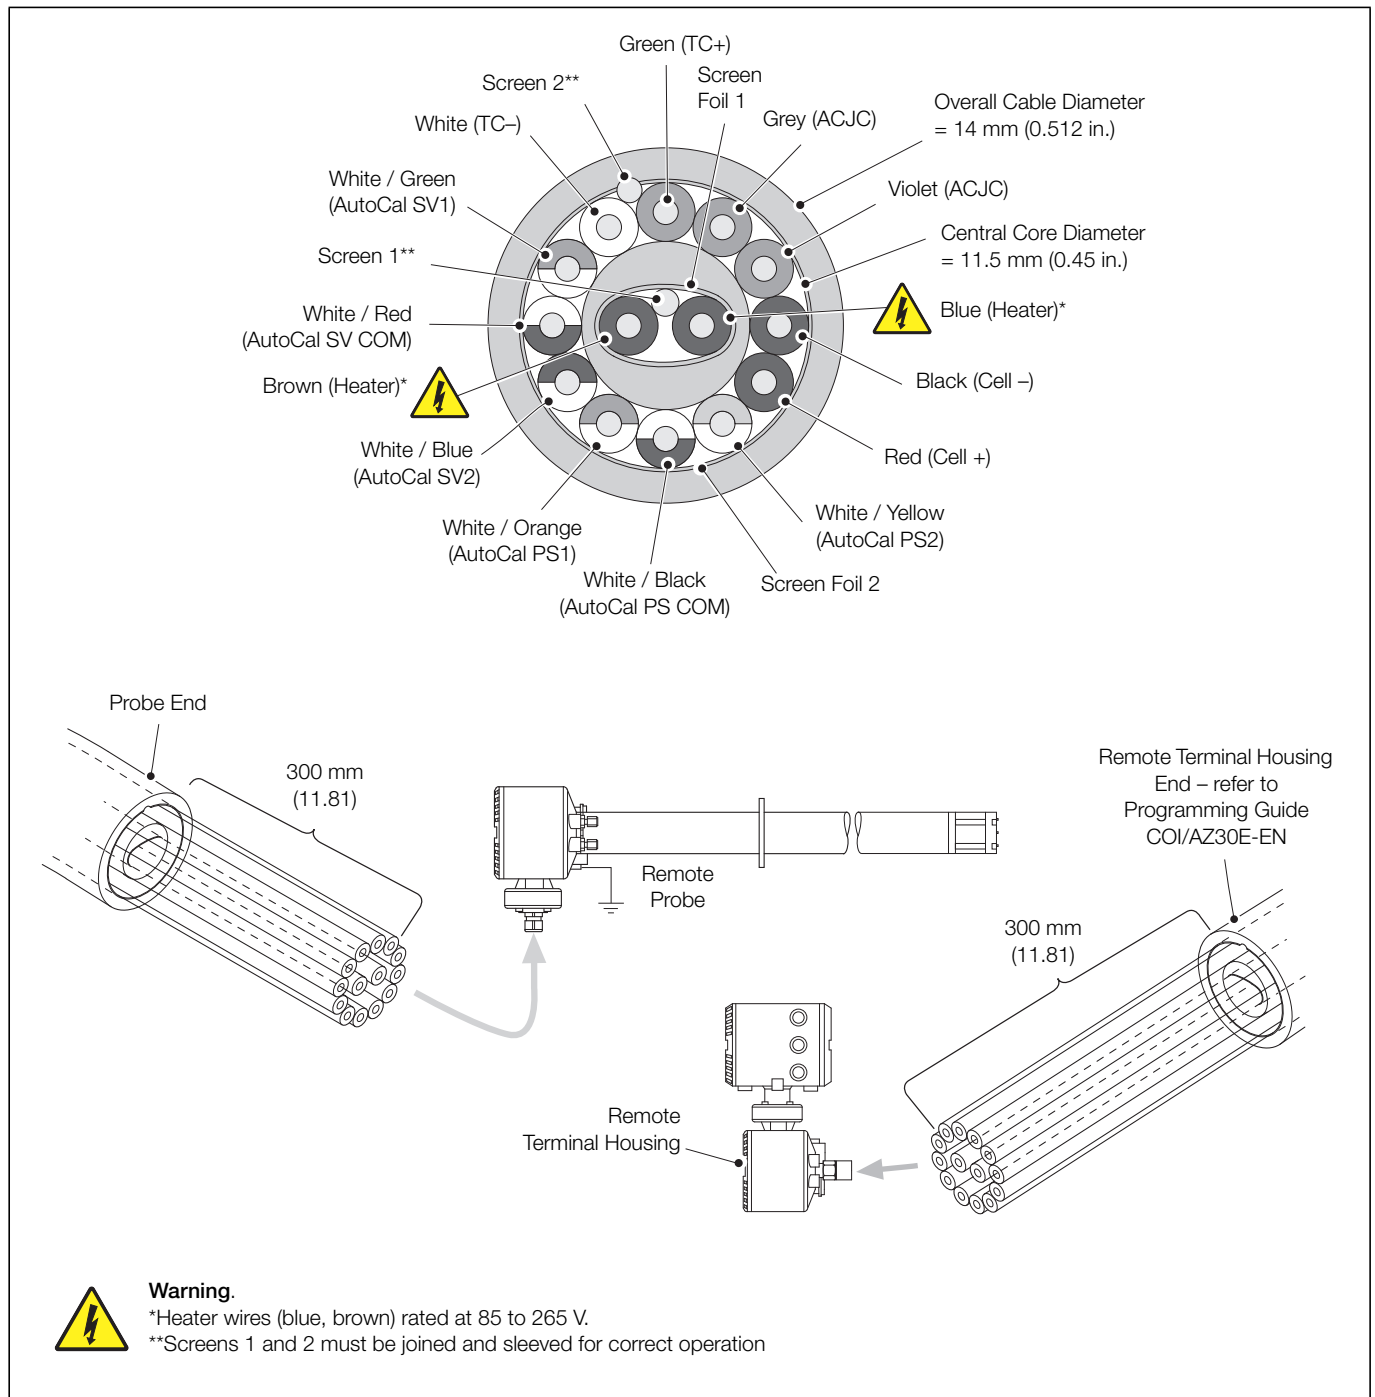

Fig. 5.3 Preparing the (ABB) Probe Cable
- The M25 (or 3/4 in. NPT) barrier cable gland must be suitable for use with the ABB 'special' 16-core cable if ordered with the AZ30 system or for any alternative cable to our specifications – see Fig. 5.3, page 25.
Referring to Fig. 5.3, page 25: